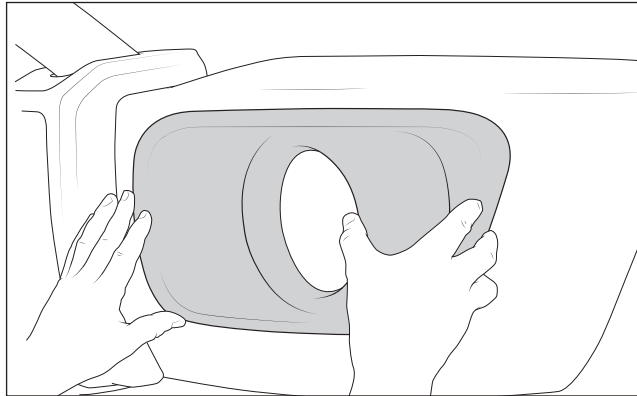

Figure 25
2. Carefully position the bezels on the bumper and press firmly. Use several strips of painter's tape to hold the bezel in place until the RTV cures (fig. 25).